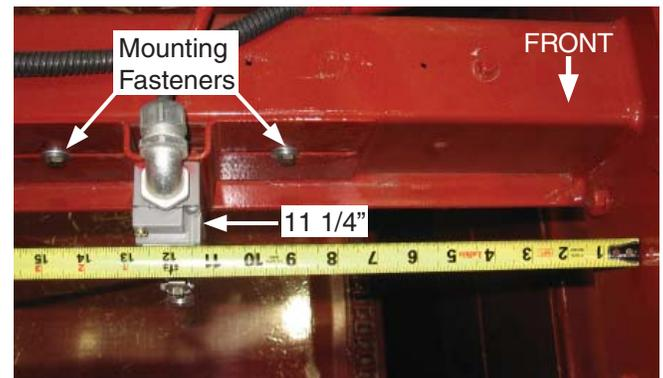

Figure 22 - Limit Switch - 2 Initial Placement
1. Use a wrench to loosen the mounting fasteners holding the limit switch bracket (see Figure 22).
1. Use a wrench to loosen the mounting fasteners holding the limit switch bracket (fasteners not shown, see Figure 22 for similar).